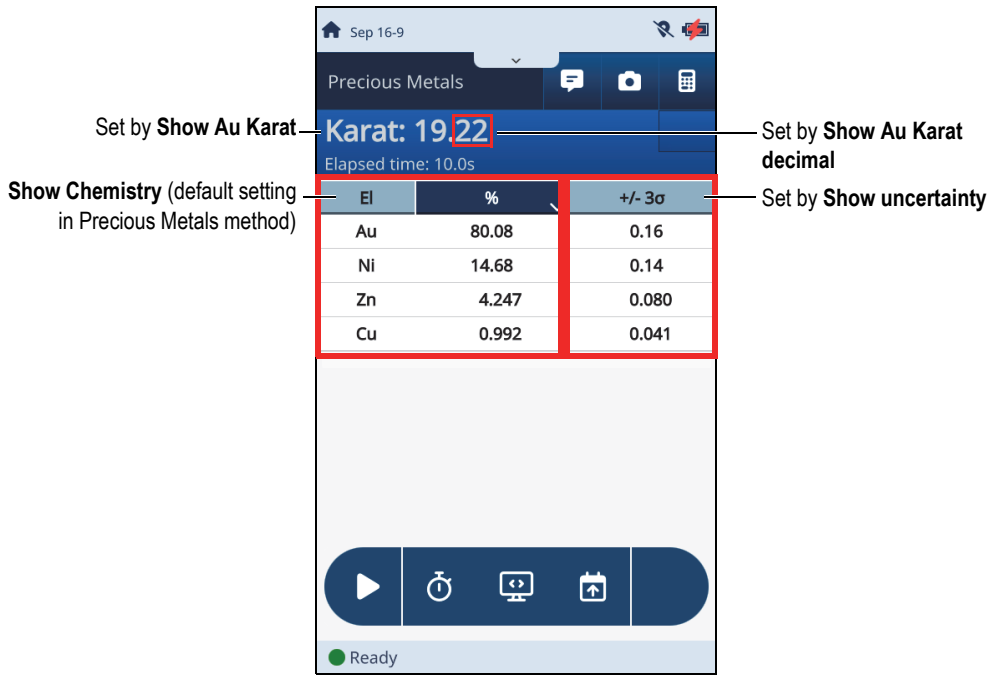
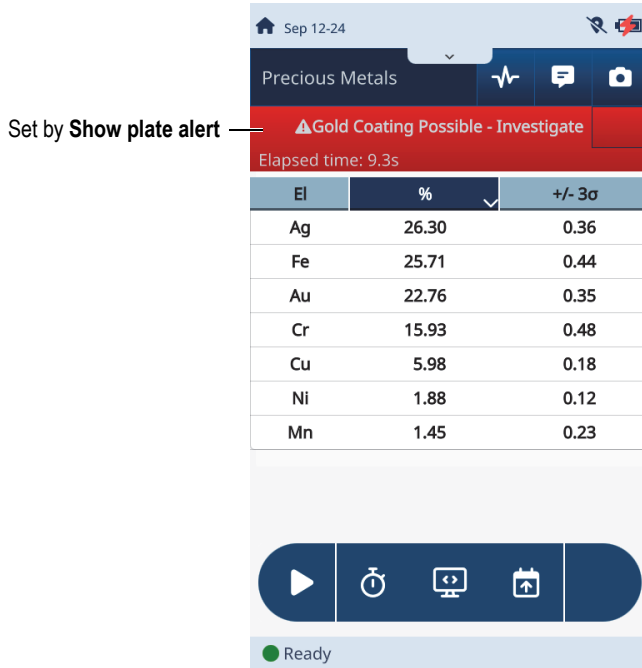

Figure 2-23 Results of Method Display selections (Karat)
Figure 2-24 Results of Method Display selections (Plating)
- When the test is run, the **Live View** display reflects the selections made on the **Method Display** screen (see Figure 2-23 on page 43 and Figure 2-24 on page 44).